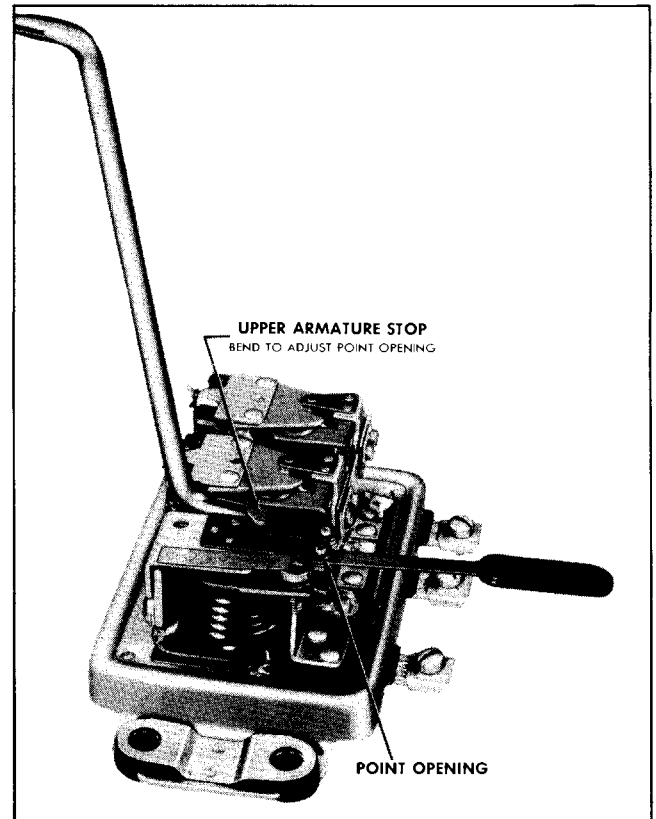

Fig. 12-26 Adjusting Cutout Relay Point Opening
2. Check point opening and adjust to .020" by bending upper armature stop (Fig. 12-26).